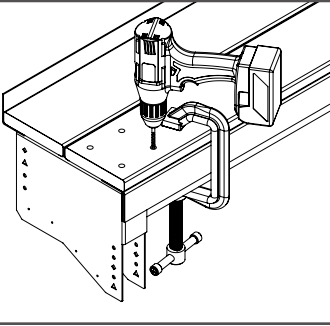

Fig. 85
7. Insert 3/8" x 4" [10mm x 102mm] Hex Head bolts and washers through pre-drilled holes. As shown in Fig. 85.